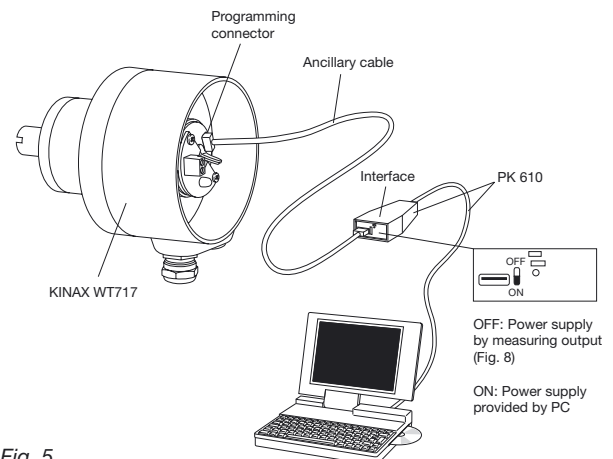
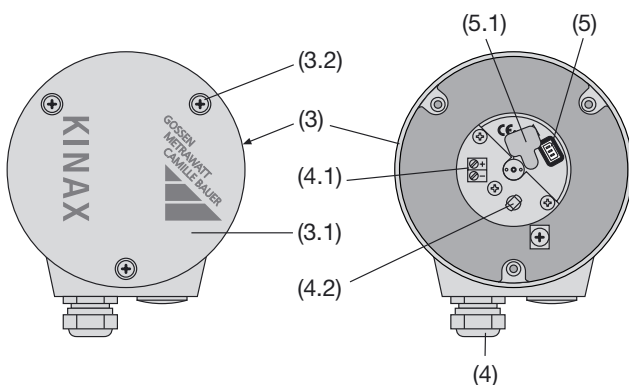

Fig. 5
Fig. 7. Rear (3) with terminals (4.1) and cable glands (4).
1. Remove the cover (3.1 in Fig. 7). Remove the rubber cover (5.1) to gain access the programming connector (5), (see section “8.1 Connecting transmitter”). Connect the KINAX WT 717 to the programming device according to Fig. 5. Start the 2W2 configuration software. If necessary, configure the device with the required measuring range data.
1. Put the transmitter into operation and connect the programming device according to Fig. 5 (AUX switch on the PK 610 on the OFF position).